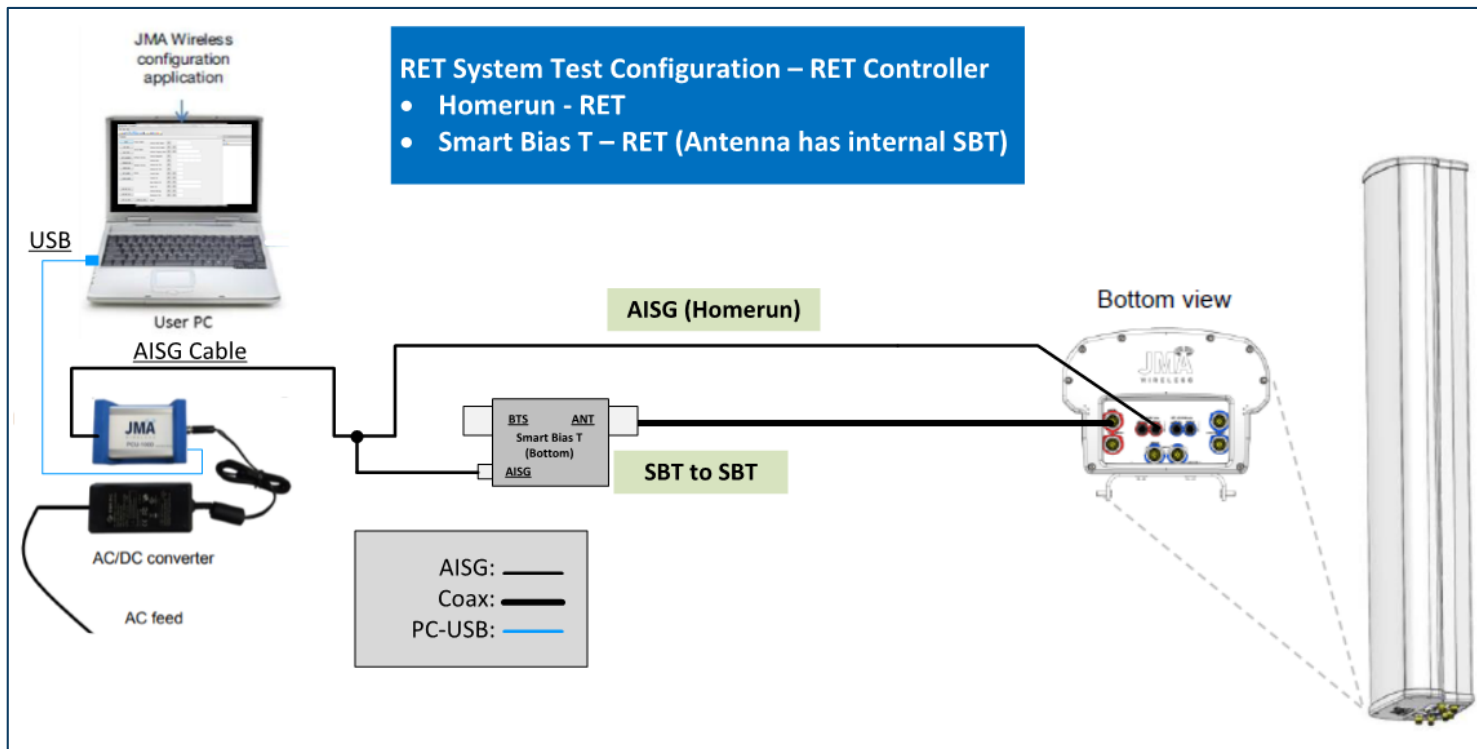

Fig. 13 – Connection diagram for RET-1000 system (NWA V antennas)
1. Follow the connection diagram in *Figure 13* which shows the various R1000 system diagram connections to the PCU-1000 controller and PC.